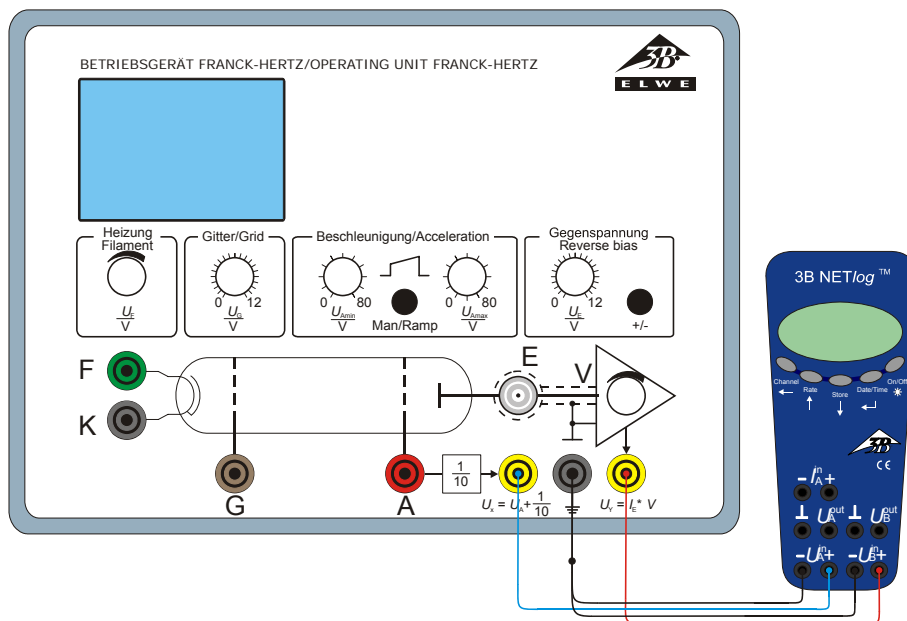

Fig. 6 Connection of 3B NET/log™ to the control unit for the Franck-Hertz experiment
- Connect the 3B NET/og™ unit to the control unit for the Franck-Hertz experiment (see Fig. 6). Connect the U_x output of the control unit to input A of the 3B NET/og™ unit and output U_y to input B.